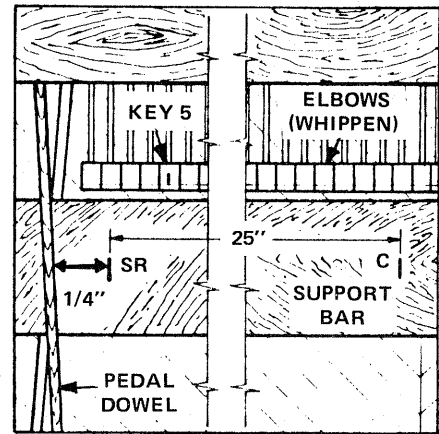

FIGURE 1-26 Measure out 25" and mark and label the Support Bar.
Measure from the mark labelled "C" (on the Support Bar), out 25" toward the LEFT side of the piano (see FIGURE 1-26). This measurement equals half the 50" length of the Solenoid Rail. Determine the following:
- A. If the measurement ends  $1/4$ " or more to the right side of the Pedal Dowel next to the FRONT of the Support Bar, mark the end of the measurement, and label the mark "SR" as shown in FIGURE 1-26. This mark indicates where the left end of the Solenoid Rail falls when it is installed.